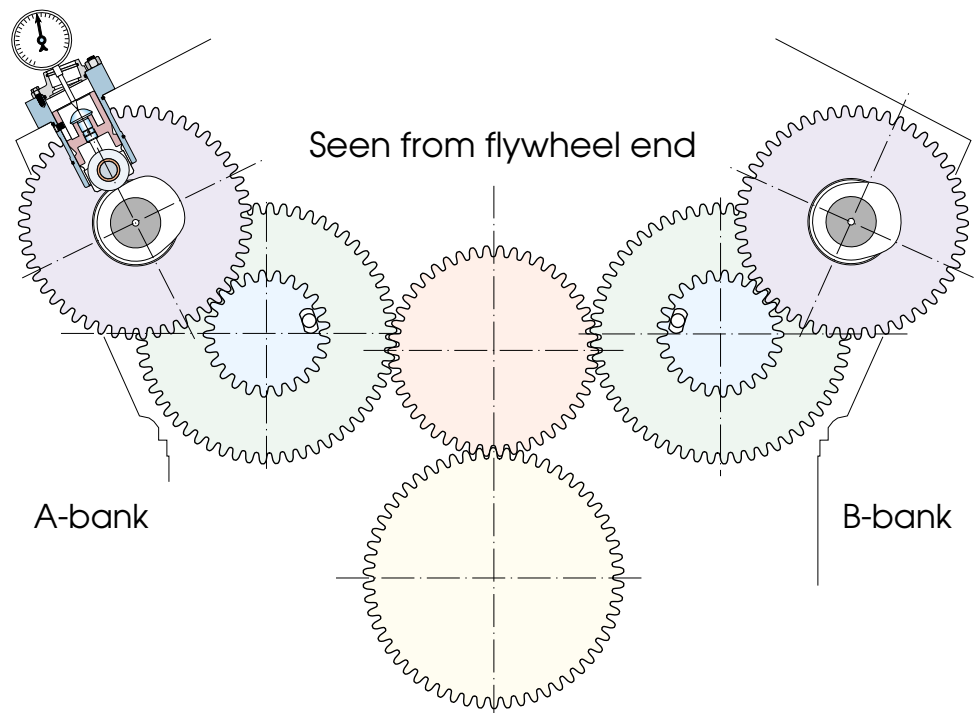

Fig 13-3
- 24 Check the axial bearing clearance** for the camshaft and the backlash between the wheels (11) and (12).
- 29 Check the axial bearing clearance** and the tooth clearance between the wheels (10) and (3).
- 2 Place the dial gauge with feeler pin** pointed perpendicular to the center of ball pin in the inlet valve tappet, see Fig 13-3.